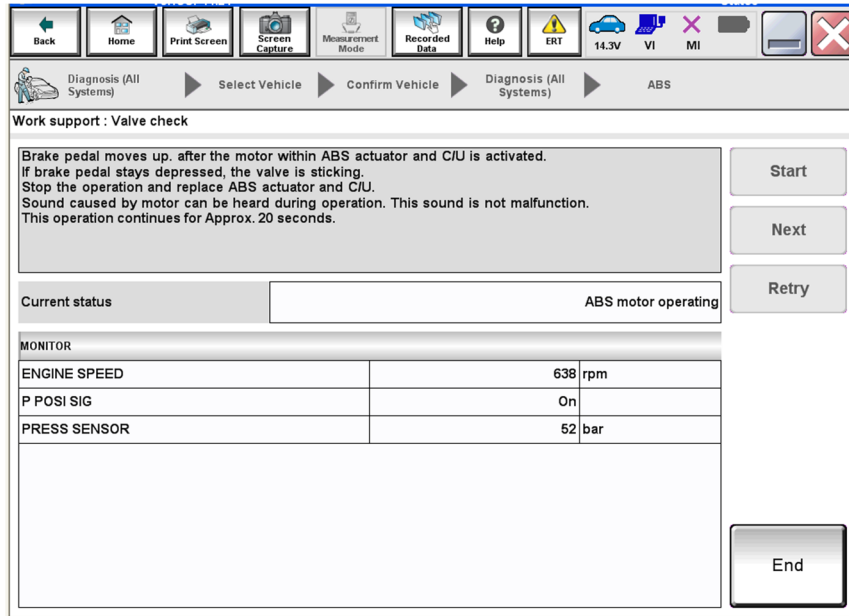

Figure 21
- After Next is selected, Figure 21 will be displayed with Current status of “ABS motor operating”.
- This operation continues for twenty (20) seconds before the start button will be active again.